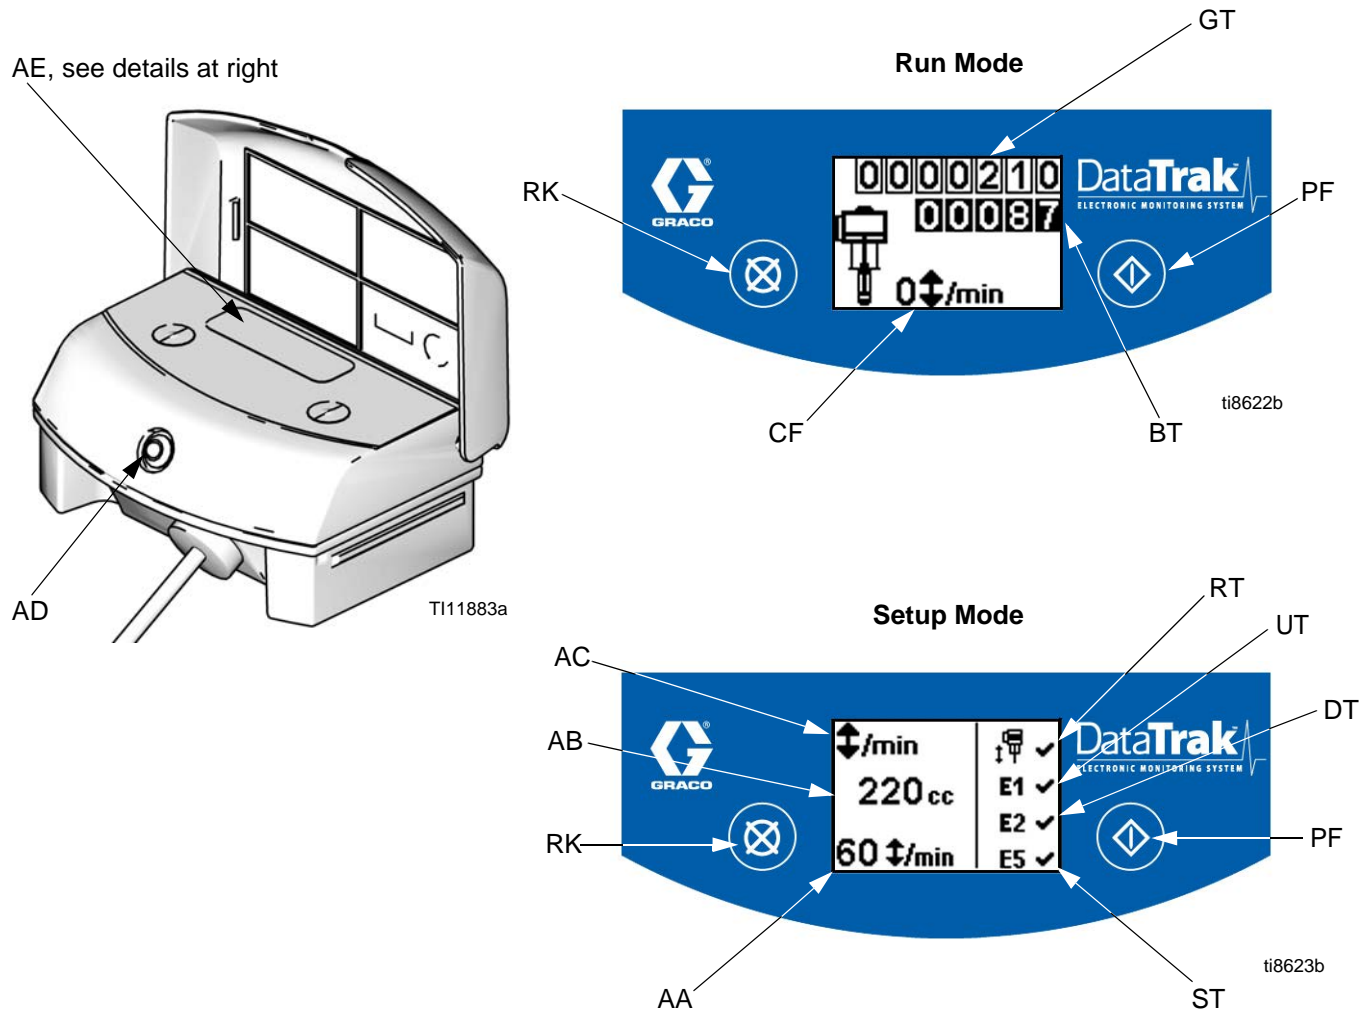

FIG. 7. DataTrak Controls and Indicators
Key for FIG. 7
1. See FIG. 7. Press and hold  for 5 seconds until Setup menu appears.
NOTE: When runaway, E1, E2, and E5 error options are enabled, a ✓ will appear on the setup screen. See FIG. 7.
1. See FIG. 7. If pump runaway occurs, the runaway solenoid will actuate, stopping the pump. The LED (AD) will flash and the display (AE) will indicate a runaway condition (see Table 1). The display will cycle through six instruction screens.
2. Runaway Screens 1 and 2: To reset the runaway solenoid, close the master air valve (E). Wait for air to completely bleed off the air motor.
3. Runaway Screens 3 and 4: After the air is bled off, push the solenoid release button (J) down to reset the air valve. The button will pop back up when the air valve is repressurized.
5. Open master air valve (E) to restart pump.
NOTE: To disable runaway monitoring, go to setup mode and set runaway value to 0 (zero) or toggle (RT) off  (see FIG. 7).
1. See FIG. 7. To enter Prime/Flush mode, press any key to wake up the display, then press . The Prime/Flush symbol will appear in the display and
See FIG. 7. The last digit of the batch totalizer (BT) represents tenths of gallons or liters. To reset the totalizer, press any key to wake up the display, then press and hold  for 3 seconds.
See FIG. 7. The display (AE) will turn off after 1 minute of inactivity in Run mode or 3 minutes in Setup mode. Press any key to wake up the display.
DataTrak can diagnose several problems with the pump. When the monitor detects a problem, the LED (AD, FIG. 7) will flash and a diagnostic code will appear on the display. See Table 1.